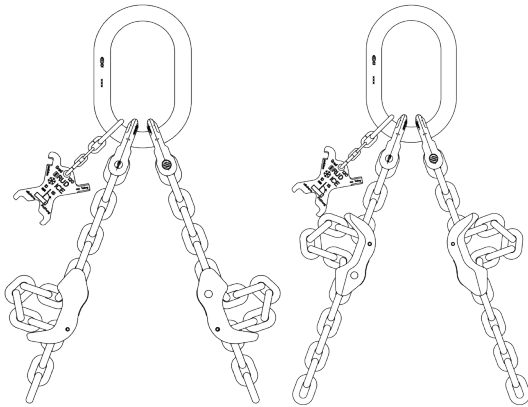

Fig. 8: Multi-strand mounting
- Mount the multi-shortening claws in 2-strand suspensions for easier use in the position “back to back” (see fig. 8).